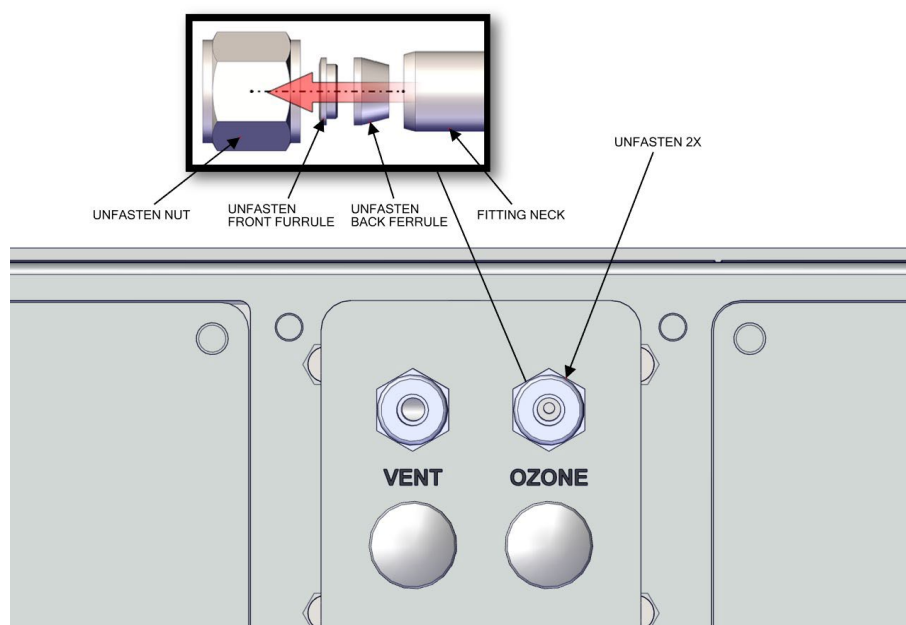

Figure 7-58. Replacing the Manifold pt 1
2. Using a wrench, unfasten three nuts. Remove the nuts, front and back ferrules as shown from back panel (Figure 7-58).